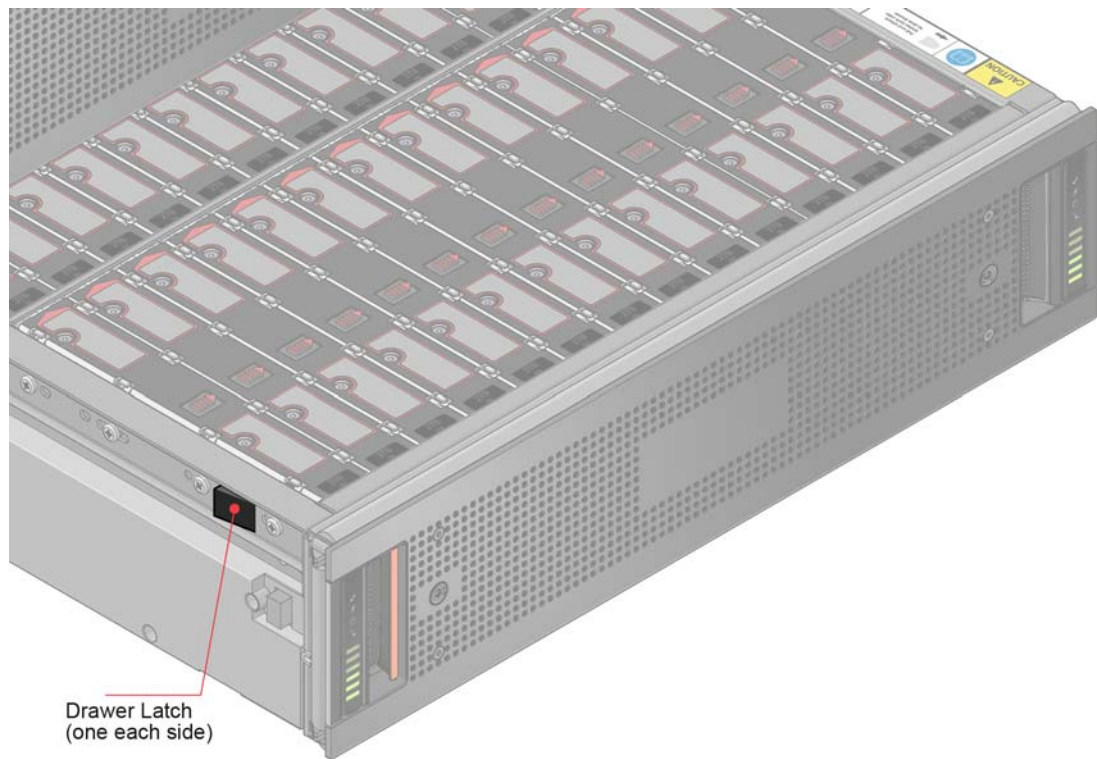

Figure 6–3 Drawer Latches
- 1 Identify which drawer contains the drive to be replaced. If the drive number is known, the plan in Figure 6–4 can be used. If the drive has failed, the drive fault LED will be lit amber on the relevant drawer.